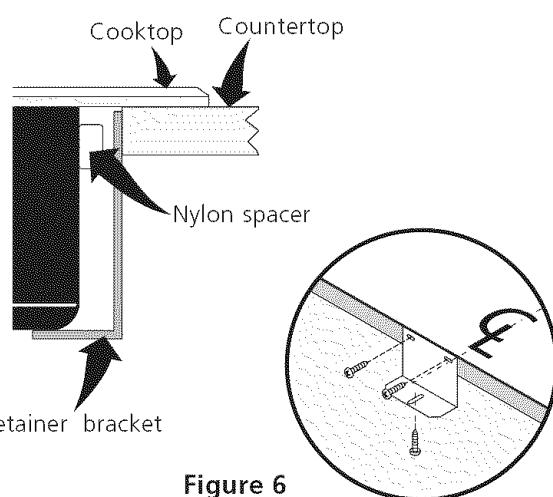

Figure 6
2. Install the retainer brackets. See Figure 6.
The retainer brackets **MUST** be installed, to meet local codes or, in their absence, with the National Electrical Code ANSI/NFPA No. 70—latest edition (see Figure 6).